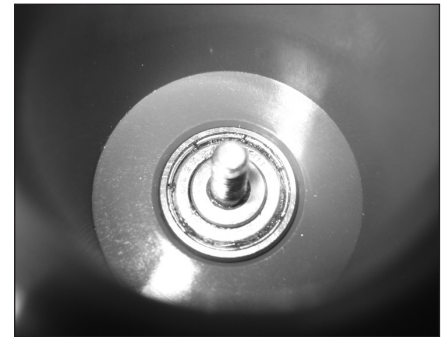

Figure 7
2. **Reinstall** the half coupling, bearing and shaft (items 2, 3 & 4 indicated on the Exploded View on pg. 8-9) as an assembly into the head. If the bearing needs to be replaced it is recommended to purchase a new shaft, bearing and half coupling assembly because the EF Series shaft can be damaged when removing or installing the bearing.
3. **Shaft Installation** - Slide the shaft down through the seal until the bearing engages the bearing bore in the head. Use any size dowel under 1" (25.4 mm) in diameter and press the half coupling, bearing and shaft into place using an arbor press or by lightly tapping with a soft mallet. Note: Do not use excessive force. Unthread the half coupling counter clockwise (right hand thread) to verify that the bearing is seated properly. *See figure 7.* Reinstall the half coupling.